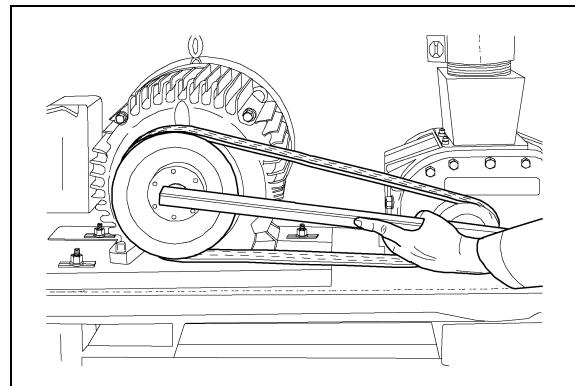

Figure 4I
4. Place the pulley and taper lock bushing onto the motor and align it with the blower pulley. (*See Figure 4I*).